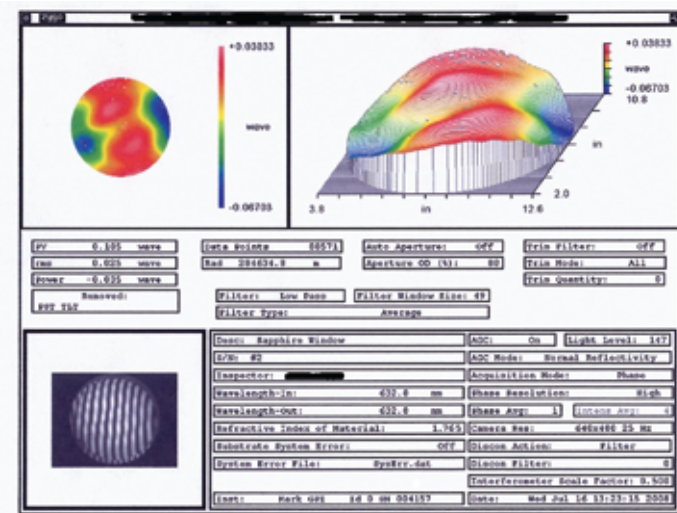

Figure 1. Interferogram of an 11-in. plate that was taken from a 15-in. crystal.
Figure 1 shows an 11-in. plate that was taken from a 15-in. crystal. The window was polished with a standard polishing process, and the transmitted wave front error is $\lambda/10$ peak to valley (PV) or $\lambda/40$ root means square (RMS). Most traditional processes could not support these values without compensating through corrective polishing techniques.